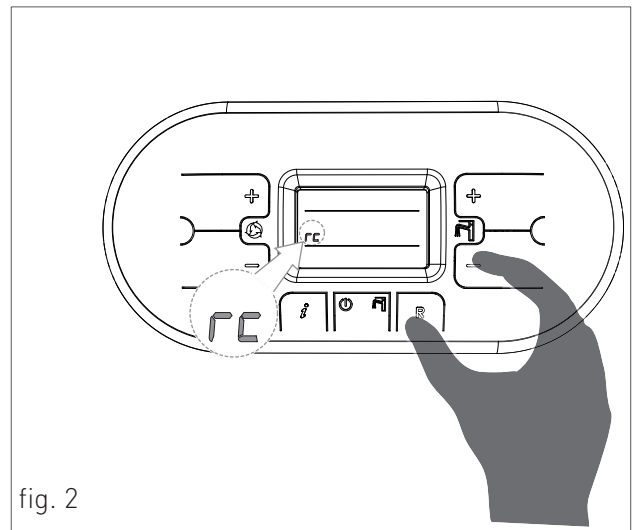

fig. 2
THIS WATER HEATER HAS BEEN DESIGNED FOR OUTDOOR INSTALLATION IN A PARTIALLY PROTECTED LOCATION (SEE FIG.2 AT CHAPTER 'POSITIONING AND MINIMAL TECHNICAL SPACES').
Outdoor installation is allowed in a partially protected place (i.e. shelter, balcony) that respects the minimum measure indicated in figure 2.
- > activate the recirculation mode by pressing simultaneously the **R** and **-** buttons of the control panel (fig. 2). The activation of the recirculation mode is displayed onto the control panel by means of the 'rc' symbol.
- › Disconnect the two faston of the recirculation probe (see B-fig. 2), and connect them onto the optional probe meant for the storage (part number: 40-00324, see fig. 2). Insert this latter probe into the sensor-holder of the storage tank.